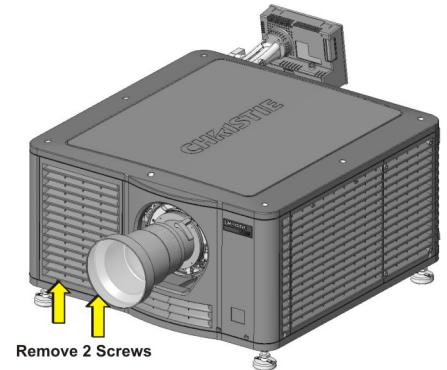

Figure 5-1 Remove Air Filter Cover
1. Loosen the two captive screws at the bottom of the filter (**Figure 5-1**).